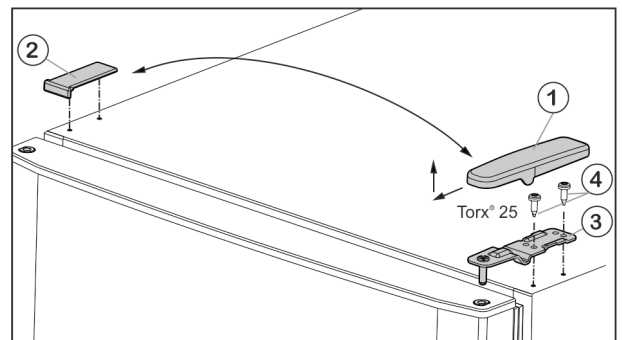

Fig. 5
- ▶ Pull off the cover Fig. 5 (1) forwards and upwards.
- ▶ Lift off the cover Fig. 5 (2).
- ▶ Unscrew the upper turn hinge Fig. 5 (3) (2x Torx® 25) Fig. 5 (4) and lift it off.
- ▶ Set the upper door down on the centre bearing block (13).
- ▶ Insert the upper turn hinge Fig. 5 (3) in the door on the new hinge side.
- ▶ Screw in the upper bearing block **tightly (with 4 Nm)** (2 x Torx® 25) Fig. 5 (4). Use a cordless screwdriver if necessary.
- ▶ Fit the cover Fig. 5 (1) on the opposite side by sliding it rearwards and latching it into place.
- ▶ Press the cover Fig. 5 (2) on the opposite side down into place until it latches.